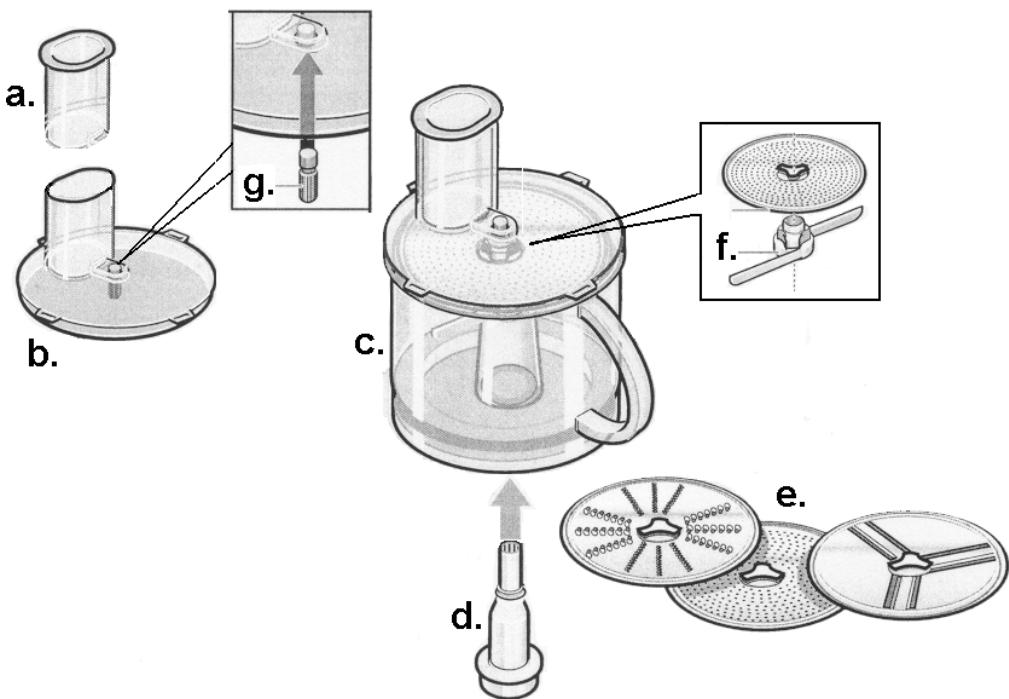

Figure 15.
The MUM 7220 UC Bosch Concept Series Kitchen Machine includes the MUZ 7 TS1 slicer/shredder attachment. The slicer/shredder attachment consists of, figure 15:
- a. If the driveshaft is not presently inserted in the bowl, insert driveshaft as shown in figure 15.